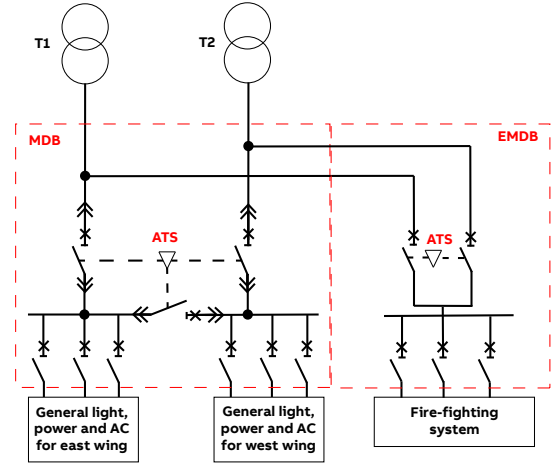

Figure 2. ATS class CB implemented for protection of busbars and ATS functions.
1. ATS Class CB is implemented both for the protection of busbars and ATS functions (see Figure 2). Usually, this might be required due to the low value of rated current in conjunction with the high prospective short-circuit current at the point of ATS installation.